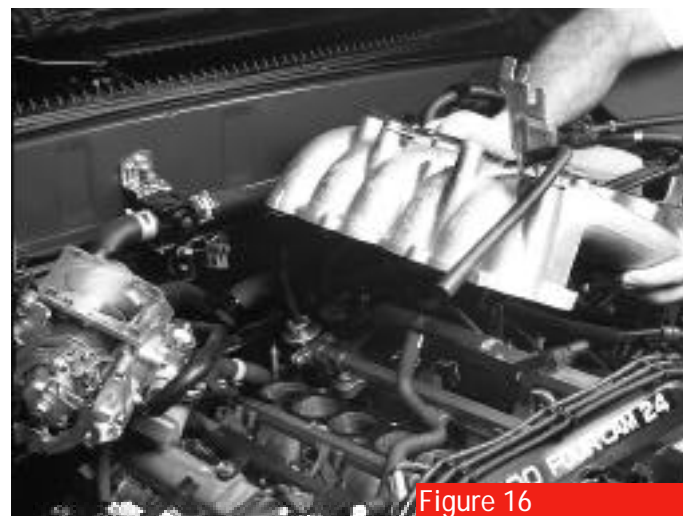

Figure 16
23. Remove the lower manifold (**figure 16**) and save the factory nuts, washers and two short bolts, as they will be reused.